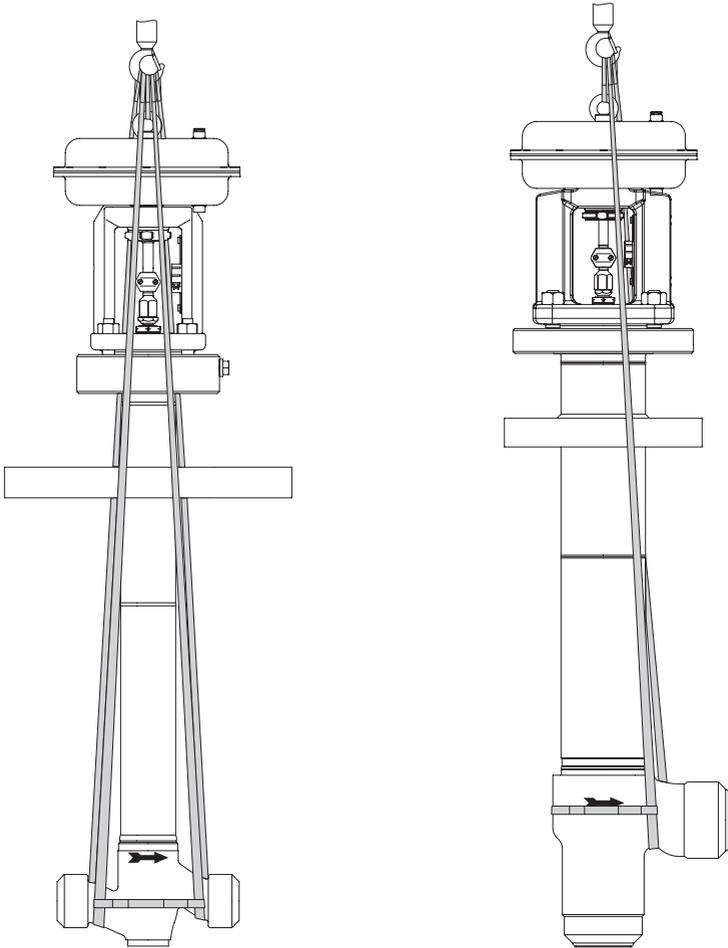

Fig. 11: Lifting points on the control valve: globe valve (left) and angle valve (right)
We recommend using a hook with safety latch (see Fig. 11). The safety latch prevents the slings from slipping during lifting and transporting.
Optionally, the valve can be lifted in the upright position (see Fig. 11).
1. Attach one sling to each welding end of the body and to the rigging equipment (e.g. hook) of the crane or forklift (see Fig. 11).